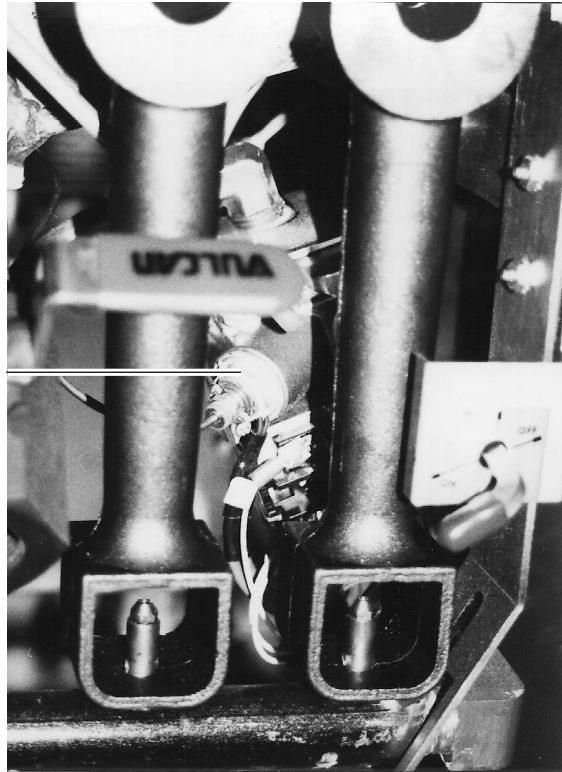

Fig. 36
2. Open fryer door and locate valve. (Fig. 36)